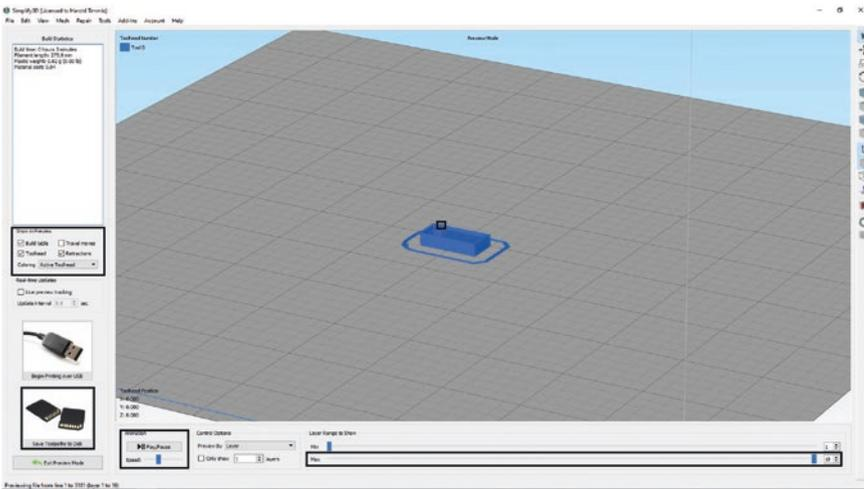

Figure 4-53. Print Preview functions
10. Next will be sent to the Print Preview mode. The Print Preview mode is very important as you can use the Layer Range to Show ► Max slider to show you what your print will look like just by sliding it back and forth. You can also use the “Play/Pause” button to run through the print at an accelerated speed. You may also notice small dots on your print; these are retraction points. On the left side of the window, you will notice several checkboxes; these control what you are seeing on the build plate, for example, the retraction points. See Figure 4-53.